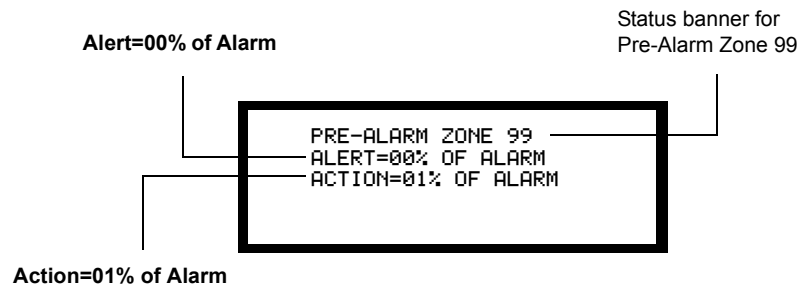

Figure 156 Sample Pre-Alarm Screen with Self-Optimizing Settings
1. From the Special Zone Change screen, select the 99=PREALM to display the Pre-Alarm screen as shown in Figure 156.
2. Set Pre-Alarm settings: ALERT=00 and ACTION=01 as shown in Figure 156.